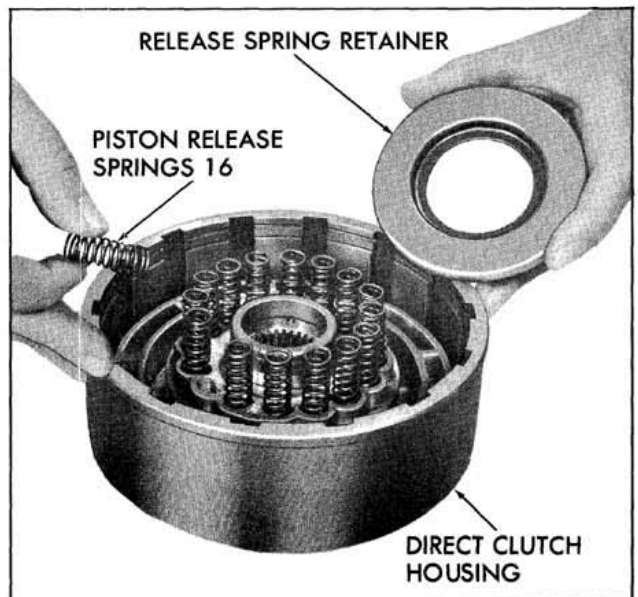

Fig. 6-165 Installing Release Springs
5. Install 16 springs (black) into the piston. (Fig. 6-165)